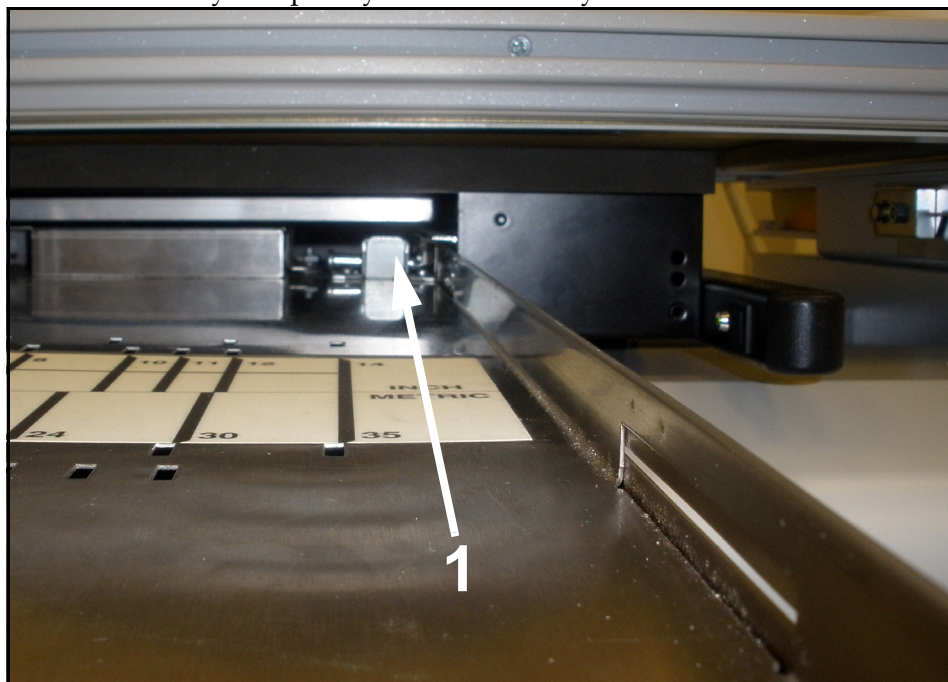

Figure 3-4. Cassette Tray Removal
- 2 While pressing on the limit button (1 in Figure 3-4) pull the cassette tray completely out of the bucky.